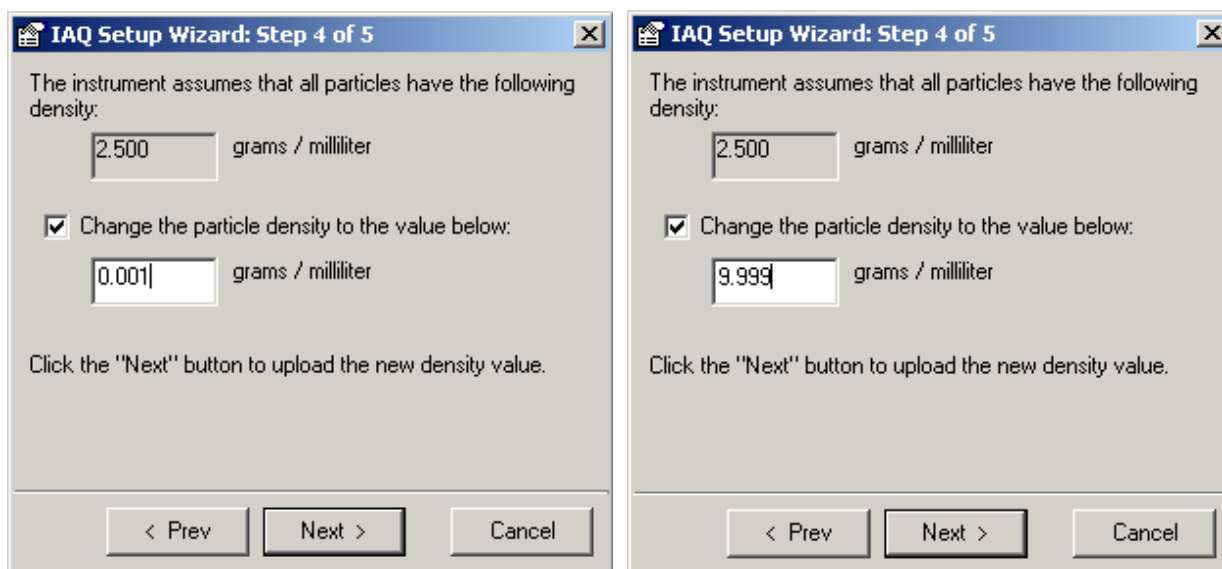

Figure 5-8 Minimum and Maximum Values
7. The default value used by the IAQ Handheld for the particle density is the same as carbon, 2.500 grams per milliliter. Values allowed are from 0.001 to 9.999, illustrated in Figure 5-8.